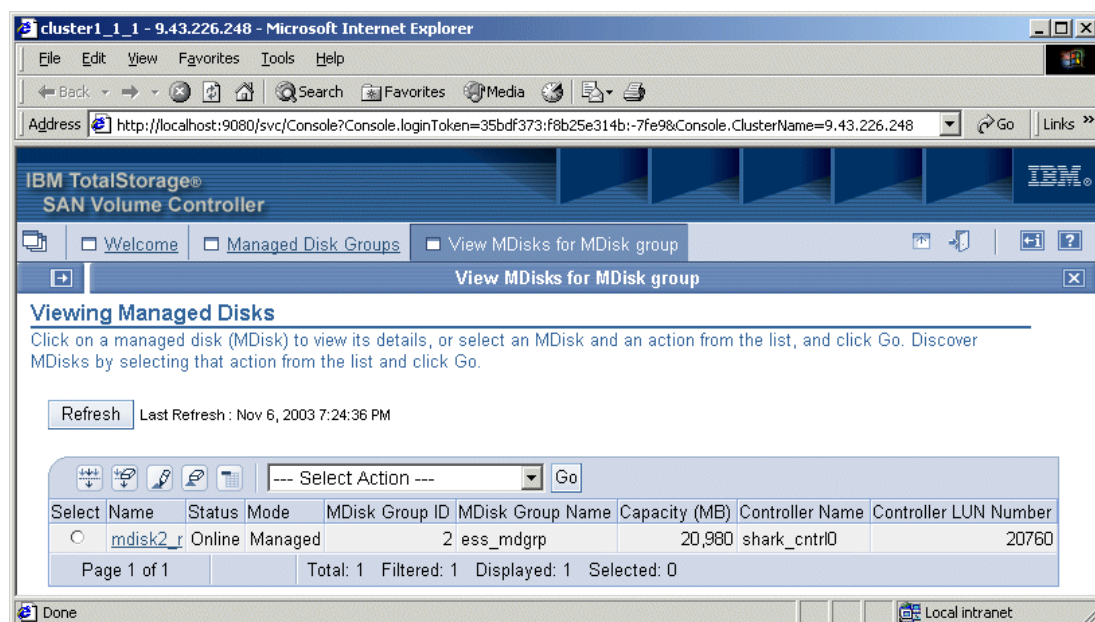

Figure 9-50 Viewing mDisks in a MDG
2. You now see a subset (specific to the MDG you chose in the previous step) of the Viewing Managed Disk panel (Figure 9-50) from 9.3.2, “Managed disks” on page 239.